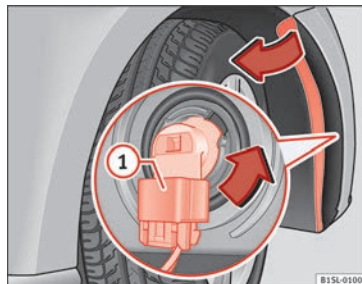

Fig. 87 Changing the bulbs in the headlights
4. Release the connector » Fig. 87 **1** and remove it.
5. Turn the bulb holder » Fig. 87 in the direction of the arrow, **in an anticlockwise direction** as far as it will go and remove it, along with the bulb, pulling backwards.